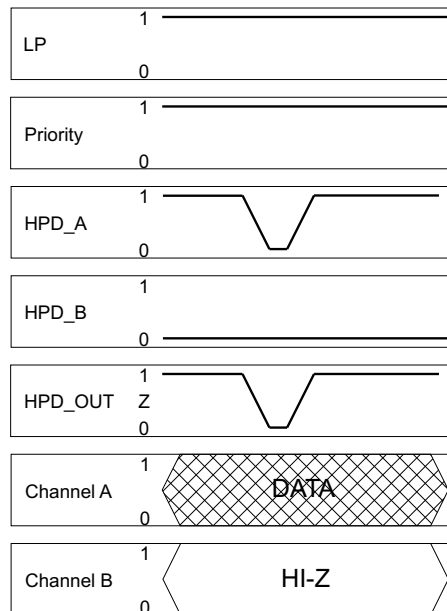
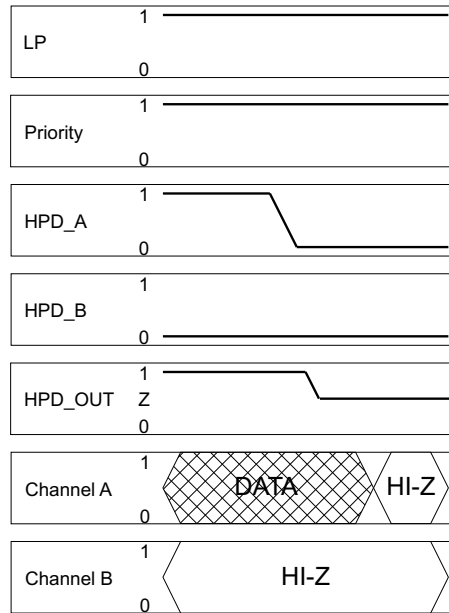

Figure 20.
Figure 21.
- Case one: In this case only one HPD input is initially HIGH. The HPD output logic state follows the state of the HPD input. If the HPD input pulses LOW, as may be the case if the Sink device is requesting an interrupt, the HPD output to the source also pulses LOW for the same duration of time with a slight delay (see Figure 20). The delay of this signal through the SN75DP128 is specified as $t_{PD(HPD)}$. If the duration of the LOW pulse is less than $t_{M(HPD)}$, it may not be accurately repeated to the source. If the duration of the LOW pulse exceeds $t_{T2(HPD)}$, the device assumes that an unplug event has occurred and enters the low power state (see Figure 21). Once the HPD input goes high again, the device returns to the active state as indicated in scenario 1. The state of the Priority pin has no effect in this scenario as only one HPD input port is active.